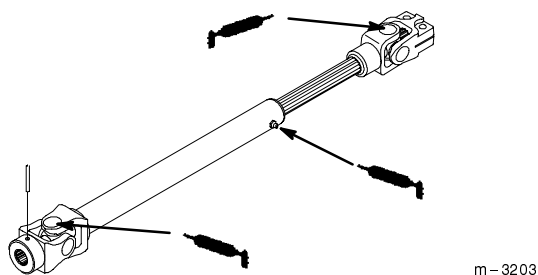

Figure 67
2. Grease the fittings on drive shaft and universal joints (Fig. 67).